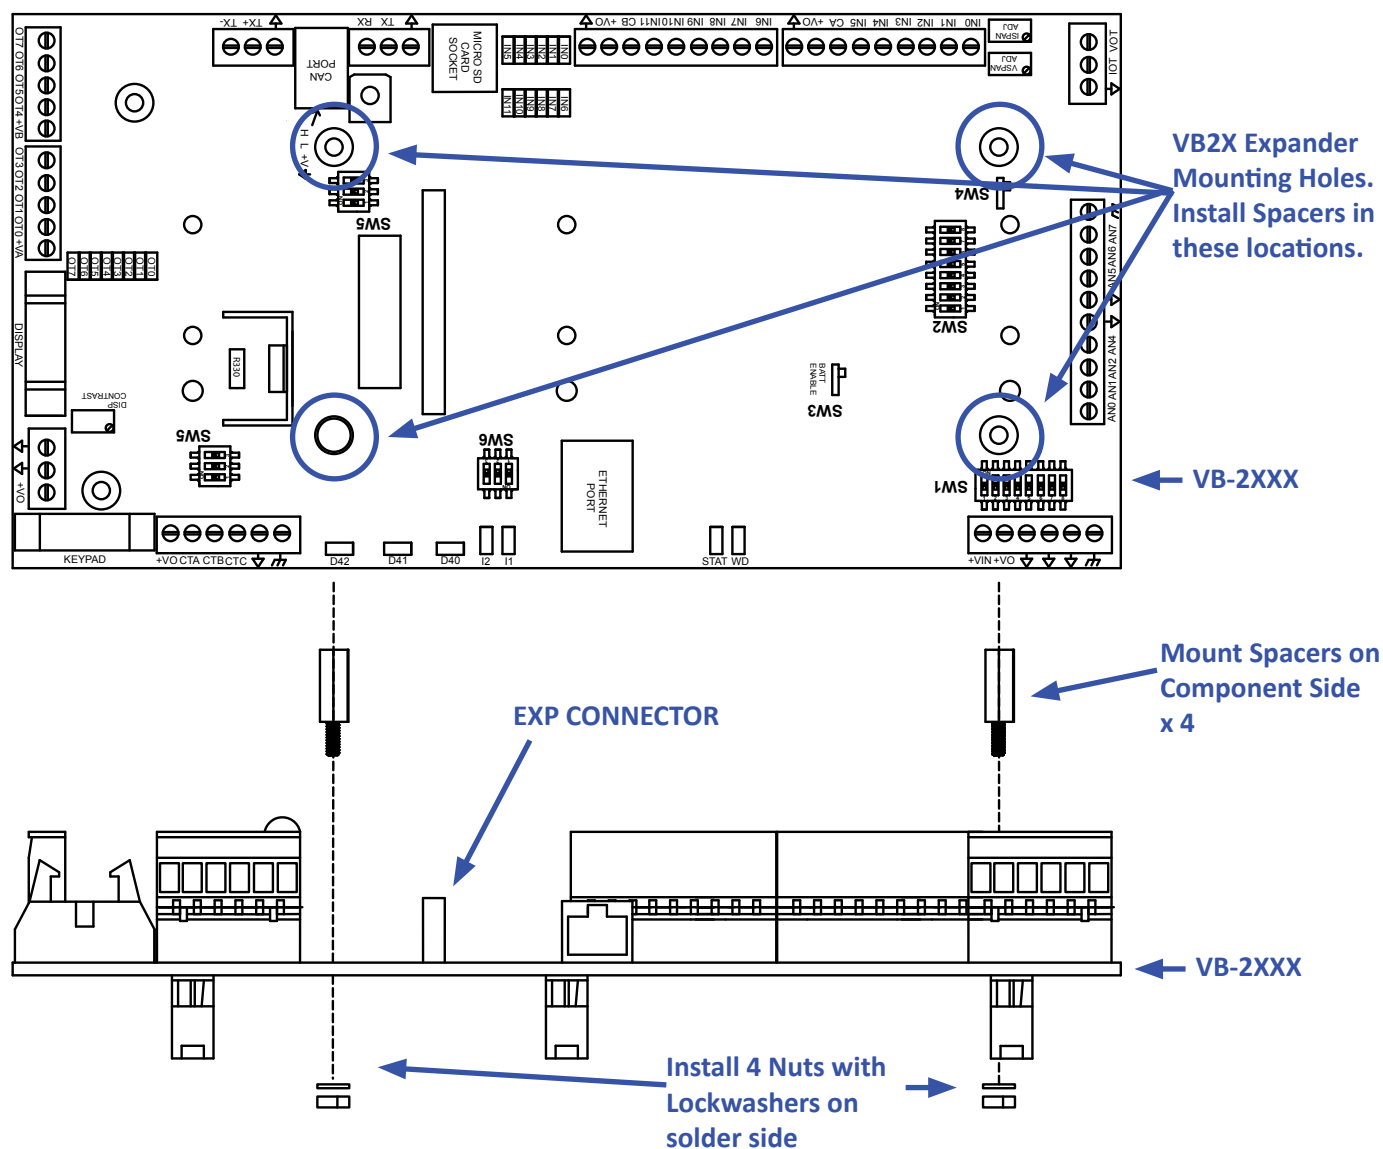

Figure 1-1 - Installation of Spacers
2. Using the 4 metal spacers and 4 of the screws provided, install the spacers on the VB-2XXX controller in the provided expansion holes as shown in Figure 1-1. The male side (threaded post) of the spacer will go through the VB-2XXX board from the top to bottom. Install 4 Lock washer and 4 nuts to the spacers (on the back side).